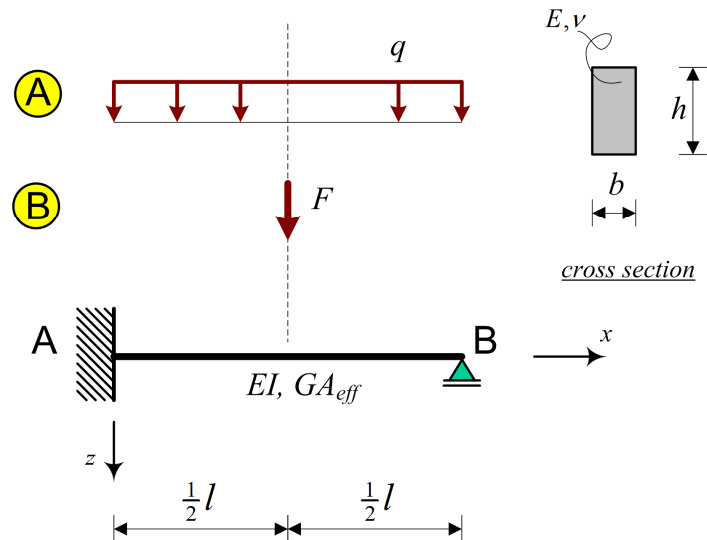

Figure 3: Beam with deformation due to both shear and bending.
The beam, with span l , is loaded with two loadcases A and B as indicated in fig. 3. This problem focusses on the influence of the shear deformation on the deflection of the beam.
- Specify the expressions for both the effective shear stiffness and bending stiffness in terms of the given parameters from fig. 3. Explain what is meant with “effective” in relation to the shear stiffness and do not forget to mention the units.